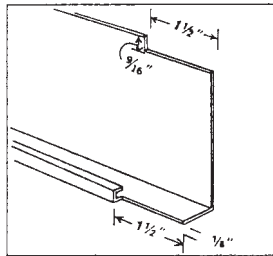

FIG. 39 Trimming Fascia Corner Ends
- 11.5.1 Trim the fascia cover ends at the corners as in Fig. 39.